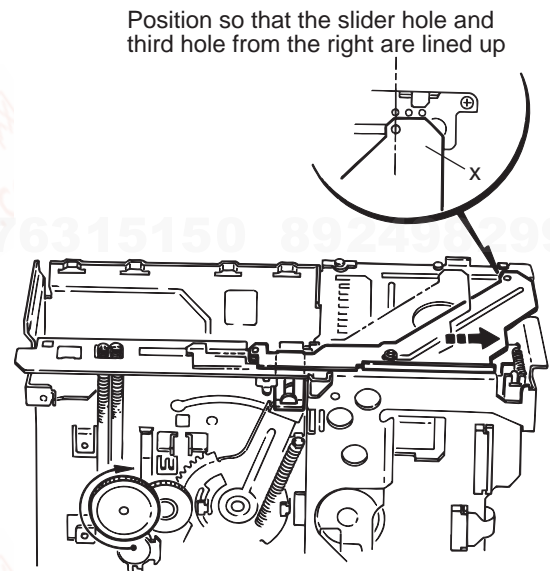

Fig.37
3.2.13.7 Mounting the main PC board assembly (See Fig.37)